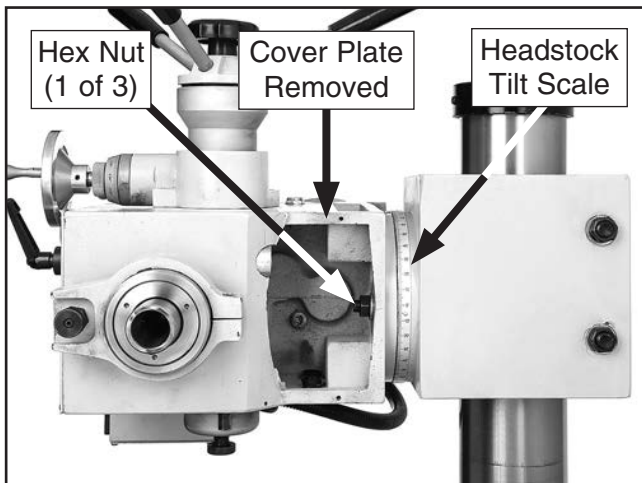

Figure 16. Location of tilt-lock hex nut underneath headstock, and tilt scale.
2. Remove cover plate from bottom of headstock (see **Figure 16**). The plate is secured with (4) M4-.7 x 6 button head cap screws.
4. Using headstock tilt scale shown in **Figure 16** as a guide, swivel headstock to desired position, then retighten tilt-lock hex nuts and replace cover plate.